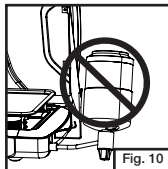

Fig. 10
- Never operate stove with propane cylinder in an inverted position. (Fig. 10)